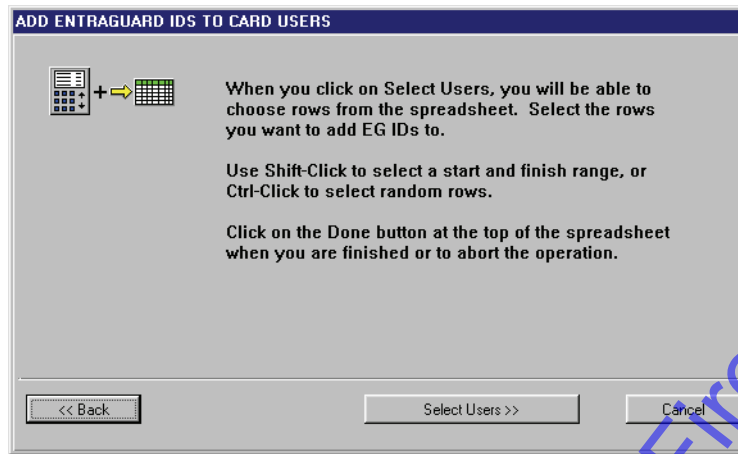

Figure 10-35: Add EntraGuard IDs To Card Users Window
- Once you have made your enrollment selections and clicked on the  button, the Add EntraGuard IDs To Card Users window will appear (see Figure 10-35).
- The confirmation display shows the number of User IDs you are about to enroll. Take a moment to verify this number is correct. If this number is incorrect, click on the  button to return to the Add EntraGuard IDs To Card Users window (see Figure 10-35 on page 26 of this section), or the  button to return to the Select Enrollment Method window (see Figure 10-31 on page 24 of this section).